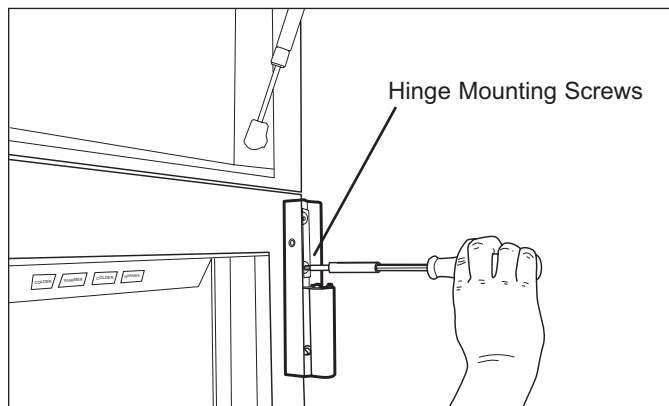

Figure 7-7. Cabinet Hinge Assembly Removal
2. Extract hinge mounting screws (See Figure 7-7).